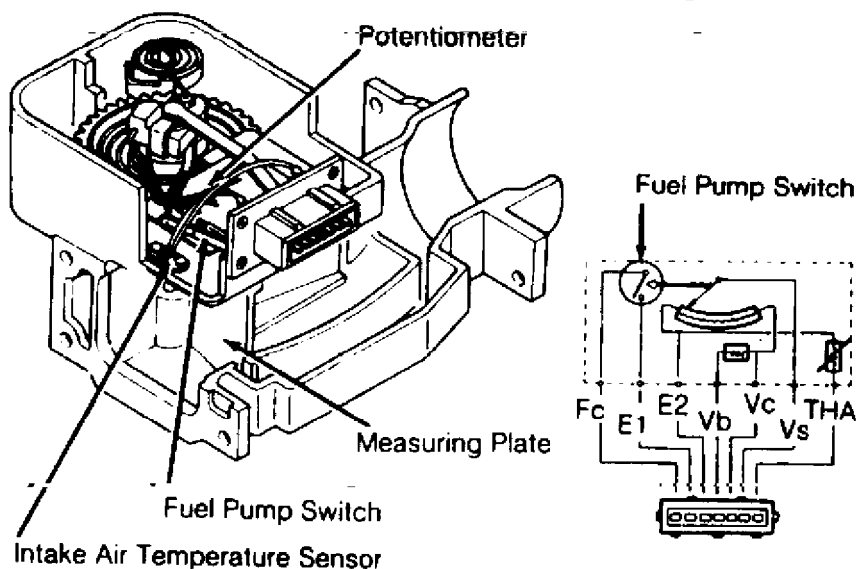

Fig. 19: Airflow Meter Terminal ID (MPV 3.0L)
(1) - See Fig. 19 for terminal identification.